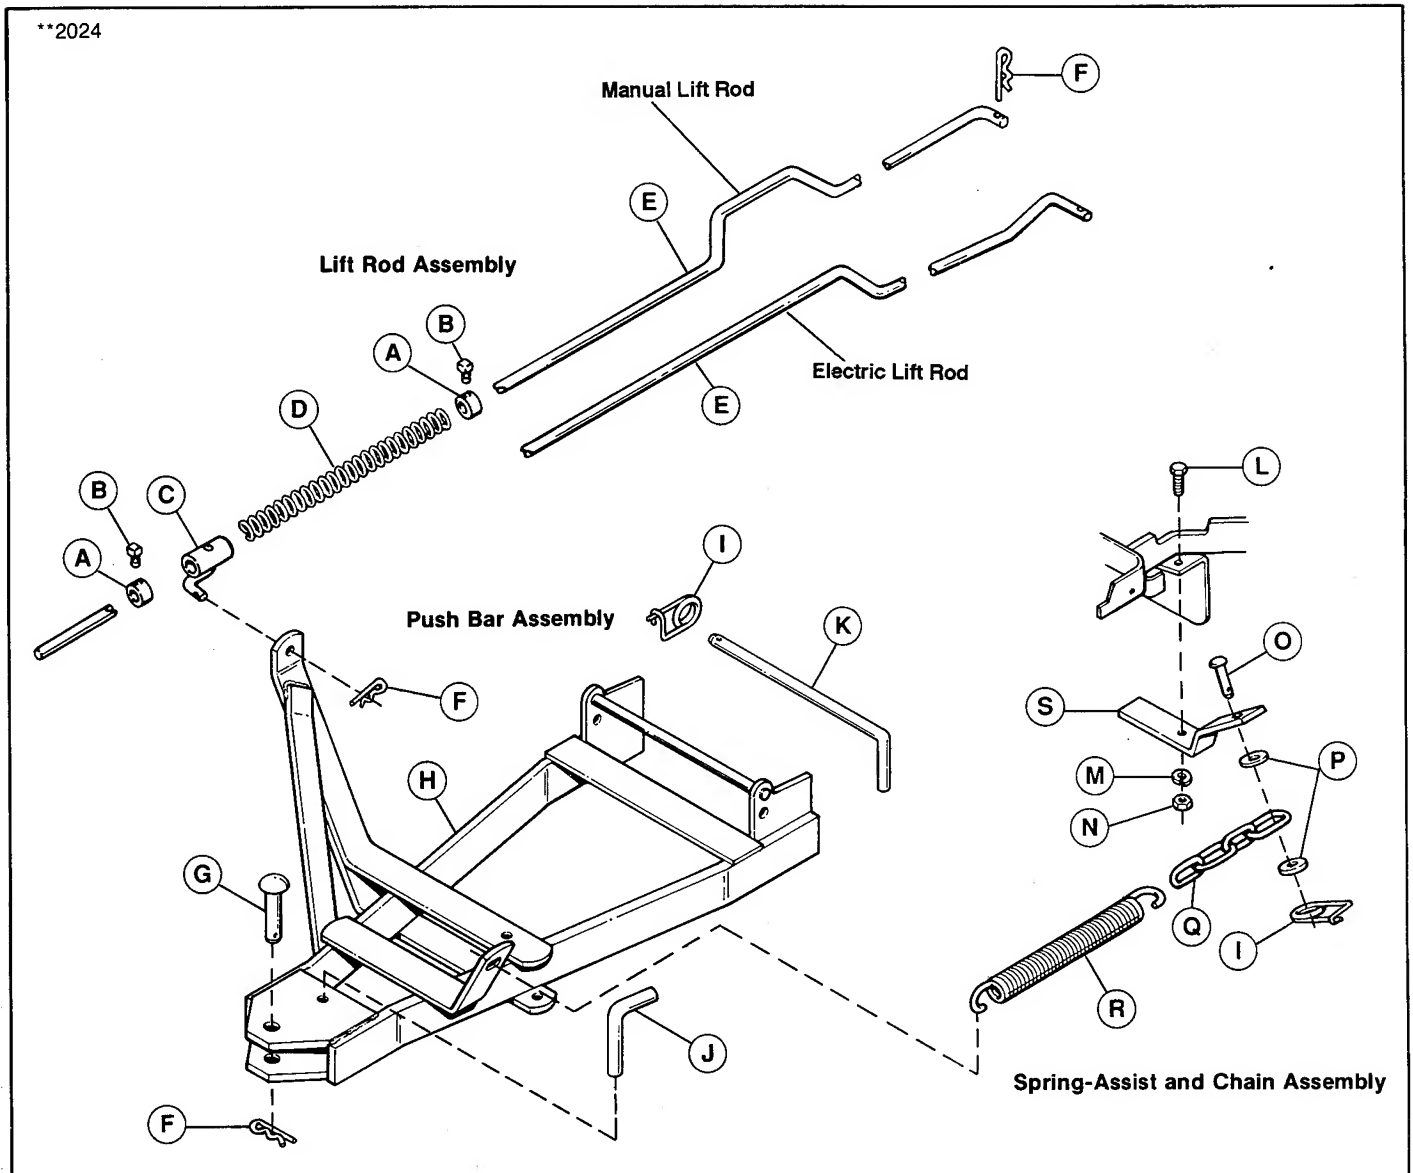
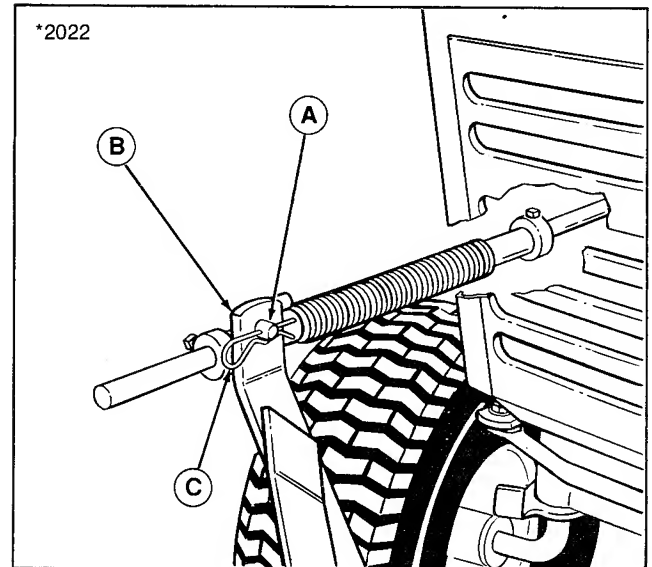

Figure 1. Push Bar and Lift Rod
Figure 7.
NOTE: Two lift rods are packaged with hitch. Use correct lift rod for manual or electric lift as shown in figure 1.
7. Assemble lift rod per figure 1. Insert prong of rod guide (A, figure 7) through hole in upright of push bar (B), and secure with spring clip (C).
8. Connect rear of lift rod (E, figure 1) to lift lever mounted on tractor using the spring clip (F).